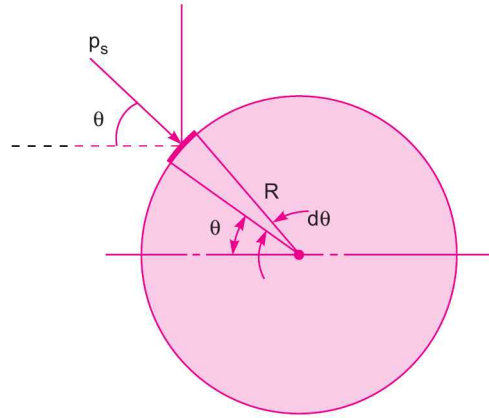

Fig. 14.13 Lift on a rotating cylinder.
- $d\theta$ = Angle made by the length ds at the centre of the cylinder as shown in Fig. 14.13.
From Fig. 14.13, we have the lift force acting on the small length ds on the element, due to pressure p_s as